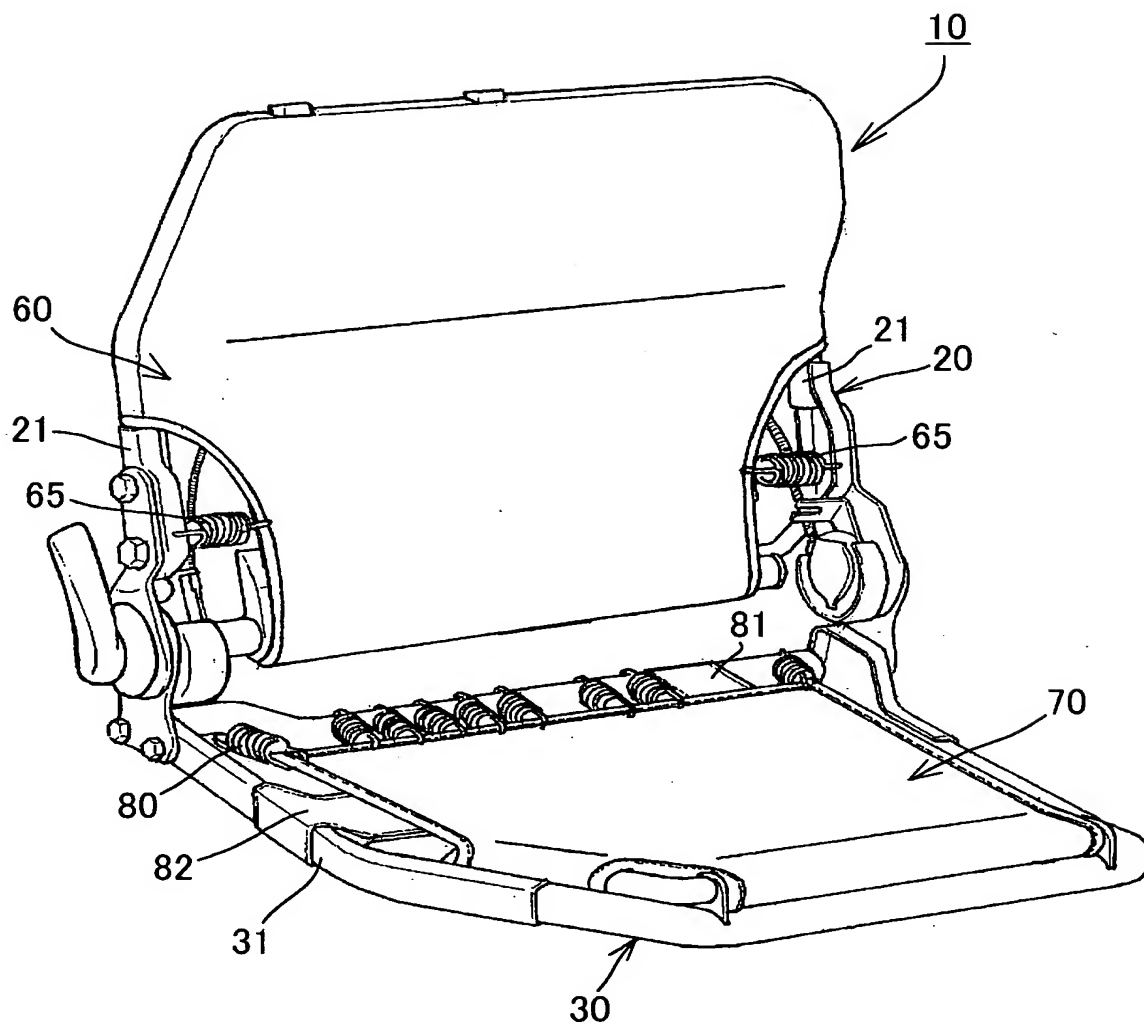

FIG. 1
FIG. 1 is a top plan view of a vehicle interior showing the layout of a vehicle control system. The diagram includes a steering wheel (70) on the left, a dashboard (32) at the bottom, and a central console (30) with a display (33). The layout is divided into sections by dashed lines, with dimensions (200) and (100) indicated for the upper section. A vertical dashed line indicates the "LATERAL CENTER". The diagram is labeled with various numbers (1, 2, 3, 4, 5, 6, 7, 8, 9, 10, 30, 32, 33, 70) and text labels like "(LATERAL DIRECTION)" and "(DIRECTION FROM FRONT TO REAR)".